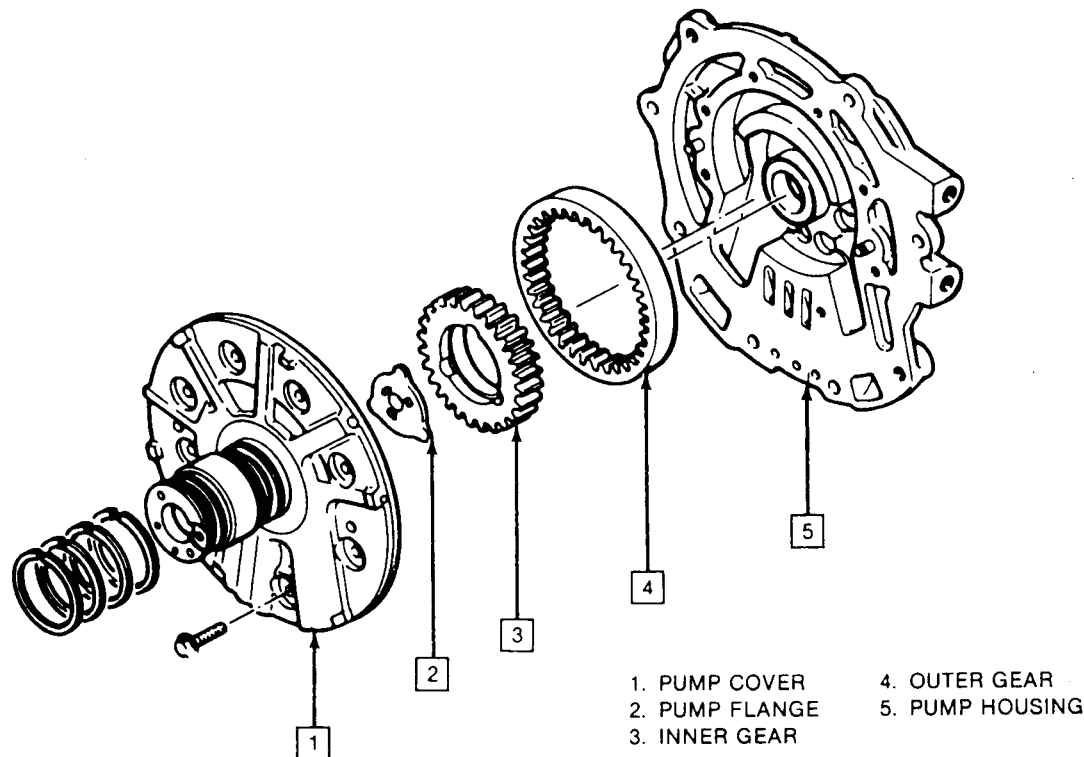

Figure 7A-41 Oil Pump Exploded View
1. Remove the large snap ring from the front clutch pack as shown in Figure 7A-44.
4. Remove the spring retainer and (10) springs from the front clutch piston (Figure 7A-46).
5. Apply air to the clutch hub to remove the piston as shown in Figure 7A-47.